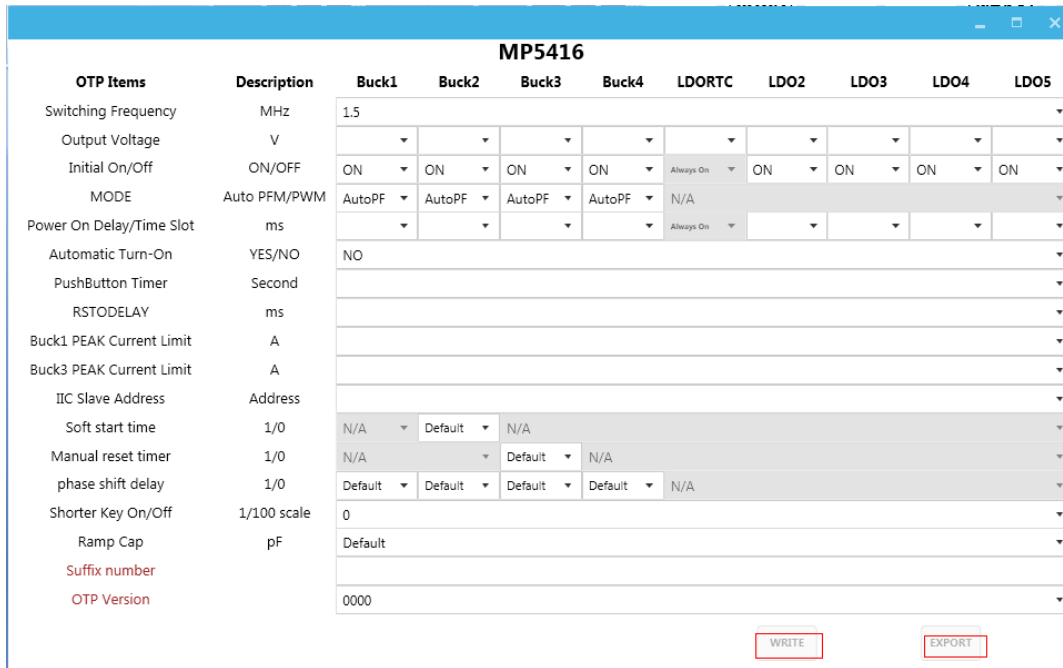

Figure 13: Parameters that can be Adjusted in OTP Mode
6. Wait for a table to load (see Figure 13). You can change any parameters listed.